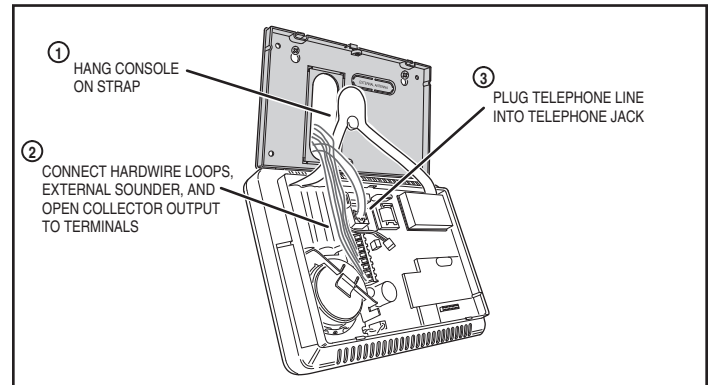

Figure 16. Control Panel Mounting
1. Hang the Control Panel on the mounting plate using the "third hand" strap (see Figure 16).